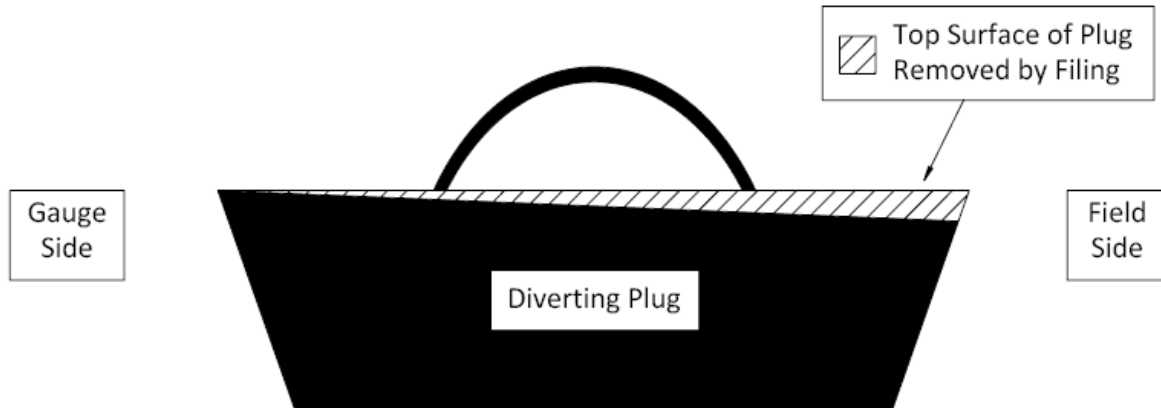

Fig. 16.1
- 16.7 When welding in a curve, the top or bottom of the diverting plug should be filed, such that it sits horizontal when installed. (Figure 16.1)
16.0.1.19 When welding in a curve, the top or bottom of the diverting plug should be filed, such that it sits horizontal when installed. (Figure 16.1)